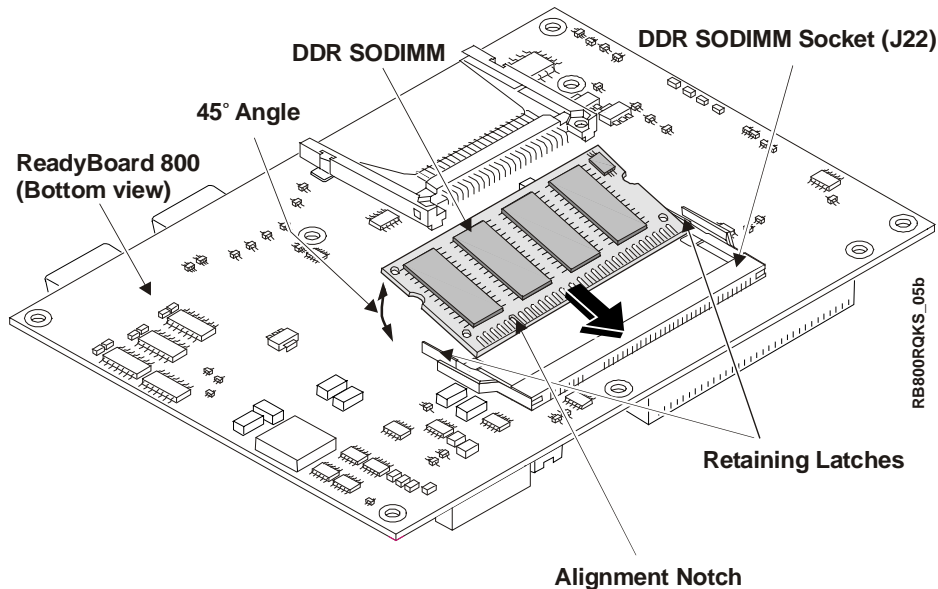

Figure 2-3. Installing SODIMM into Socket
8. Insert the SODIMM into the socket at 45° angle to the bottom of the ReadyBoard 800 with the components facing up. See Figure 2-3.
9. Press the edges of the SODIMM down between the latches, until the latches snap into place. See Figure 2-3.